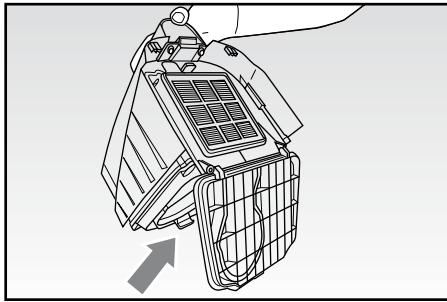
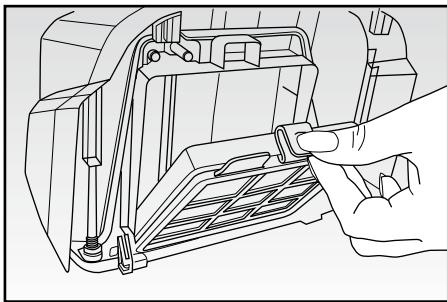

Fig. 7
Fig. 8
- Open the door through the apposite lever (Fig. 7).
- Empty the dust container (D).
- To clean the inside of the container (D), it is possible to remove the washable filter by pulling it outwards (Fig. 8).
- Close the hatch ad refit the dust container (D) onto the body of the appliance so that it clicks in place.